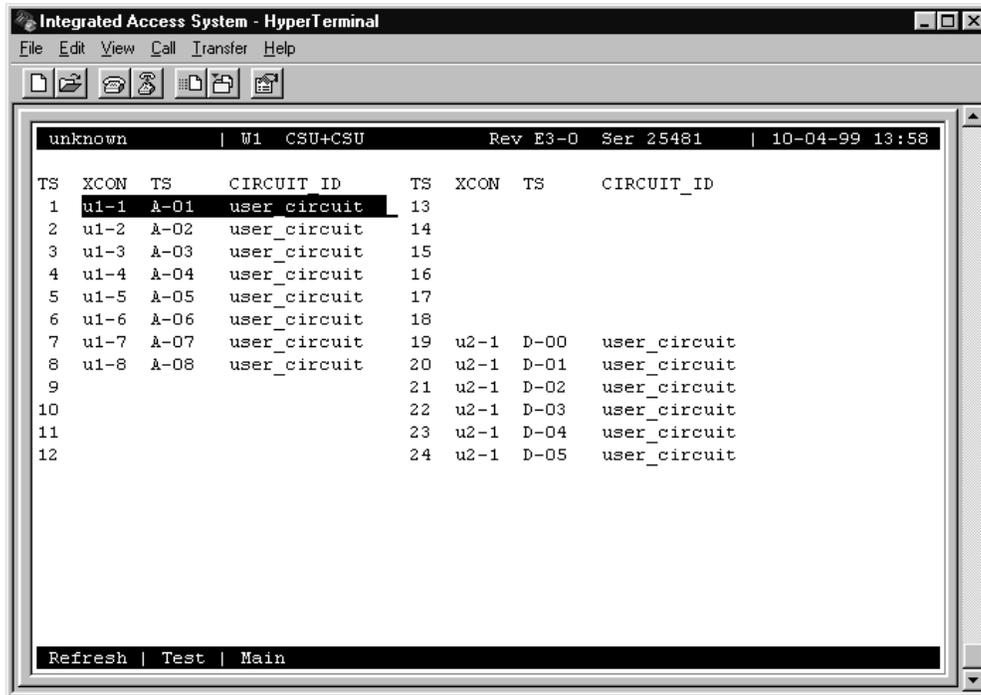
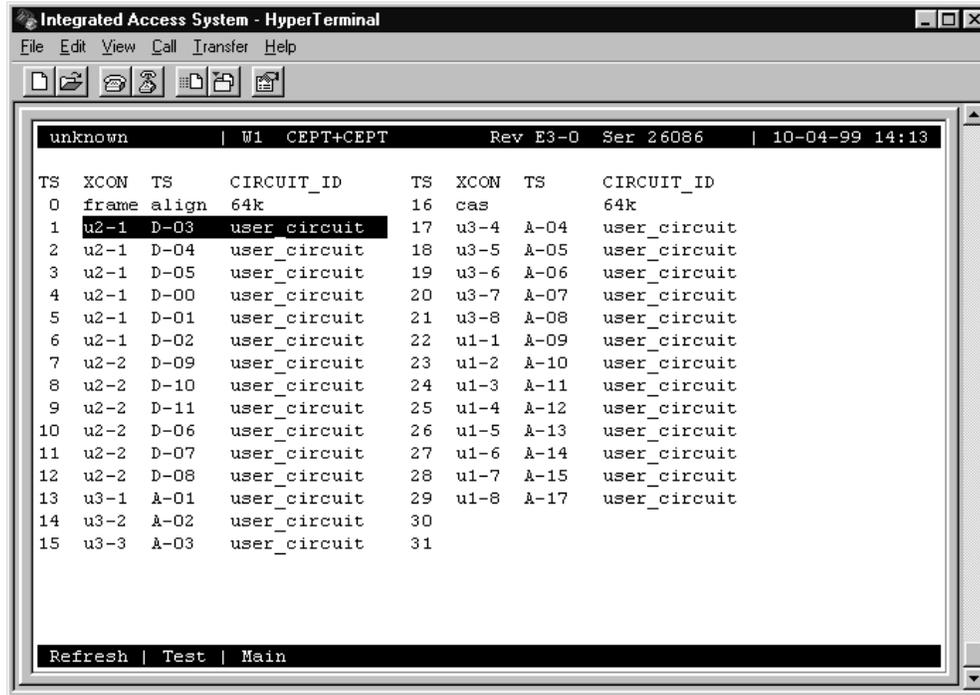

Figure 4-64. Typical Time Slot Screen for T1 Operation
Figure 4-65. Typical Time Slot Screen in E1 Operation
2. Type “**x**” (**Xcon**) to bring up the time slot screen (see Figure 4-64 for T1 operation and Figure 4-65 for E1 operation).
For E1 transmission (Figure 4-65), time slot 0 and 16 are not available for assignment on either the HSU table or the voice card time slots. Like T1 operation in d/i mode, unspecified time slots are automatically assigned to corresponding slots on the other WAN port on the same card.